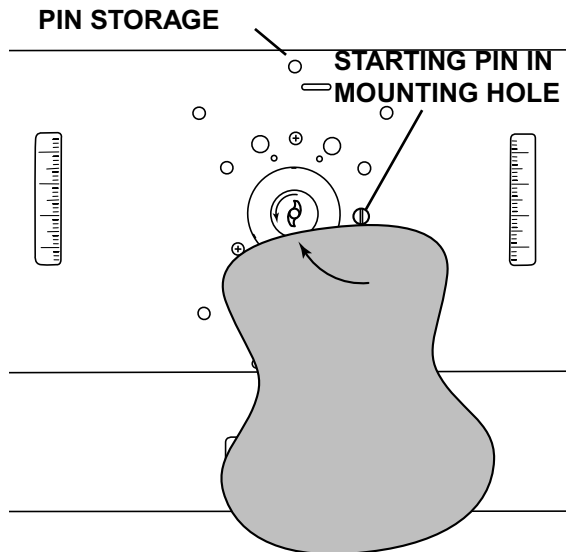

Figure 40
2. Position the workpiece against the starting pin, but clear of the router bit. Turn on router and slowly advance the workpiece toward the bit until it touches the ball-bearing guide and the bit begins to cut wood. Feed workpiece against the rotation of the bit. See Figure 40.